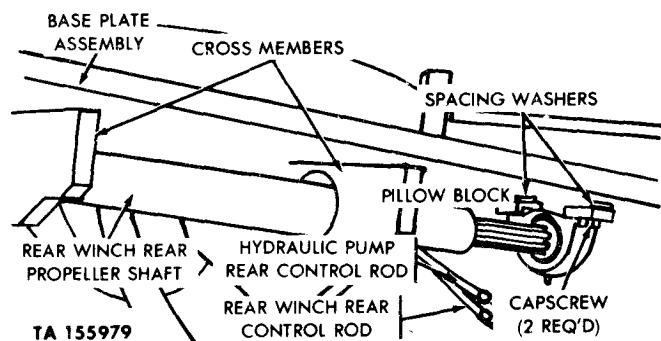

Figure 2-273. Underside of crane base plate (removed from M62).
(1) Disconnect front propeller shaft and front universal joint from yoke on power divider winch output shaft (para 2-179).
(2) Pull propeller shaft toward front of vehicle, and remove rear universal joint with slip yoke assembly, from front (splined) end of rear propeller shaft (fig. 2-273).
(3) Disconnect front propeller shaft rear universal joint from rear propeller shaft slip yoke (para 2-179).
(4) Remove universal joint at each end of front propeller shaft (para 2-179).
(1) Disconnect front propeller shaft rear universal joint from slip yoke on front (splined) end of rear propeller shaft (para 2-179).
(2) Slide slip yoke from front end of rear propeller shaft (fig. 2-273).
(3) Remove two capscrews (fig. 2-273), securing pillow block to underside of base plate, and remove spacing washers from between base plate and pillow block.
(4) Loosen setscrew securing pillow block bearing inner race to rear propeller shaft, slide pillow block forward, and remove it from shaft.
(1) Slide pillow block (fig. 2-273) on front (splined) end of rear propeller shaft, and aline mounting holes with holes in underside of base plate.
(2) Place spacing washers between pillow block and base plate, and secure pillow block to underside of base plate with two capscrews.
(3) Tighten setscrew in pillow block bearing inner race securing race to the shaft.
(4) Slide slip yoke onto front end of rear propeller shaft. Connect front propeller shaft rear universal joint to slip yoke (para 2-179).